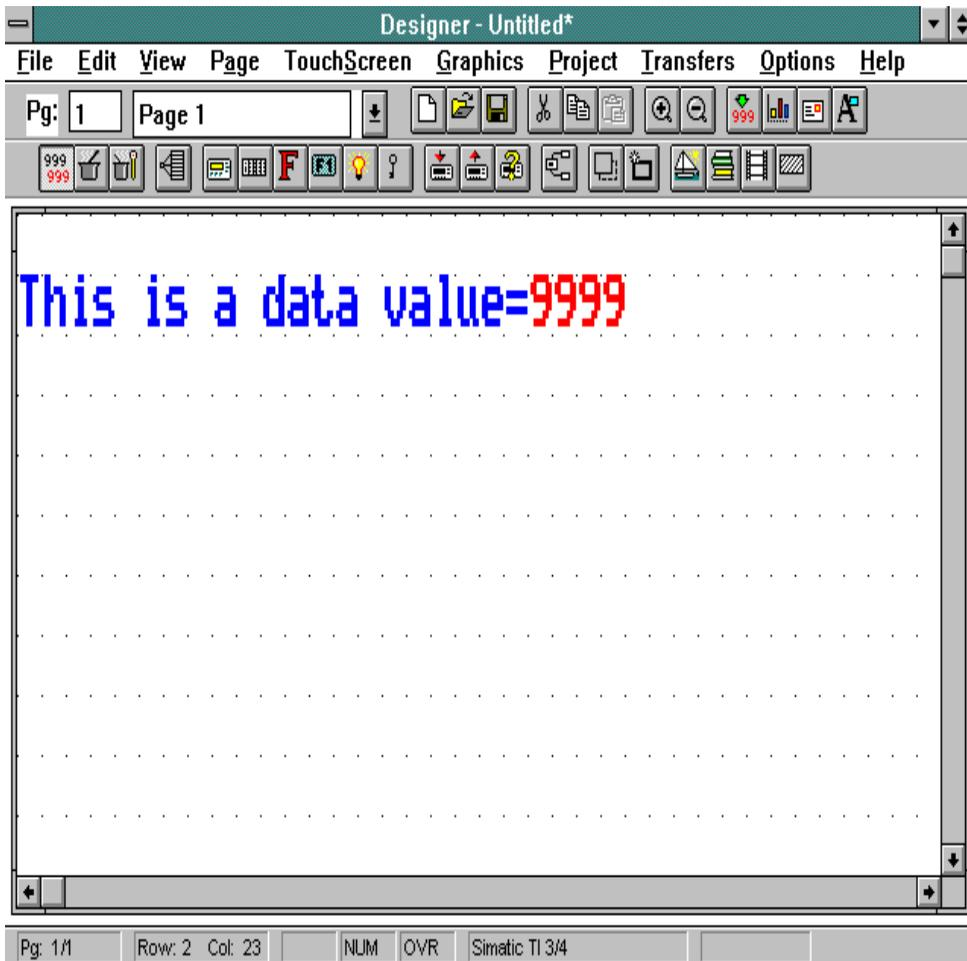

Figure 2-6
STEP 13 Click on the OK button in order to confirm the operation and create the field (see Fig. 2-6).
Figure 2-6 shows what the user's computer screen should resemble once step 13 is completed.